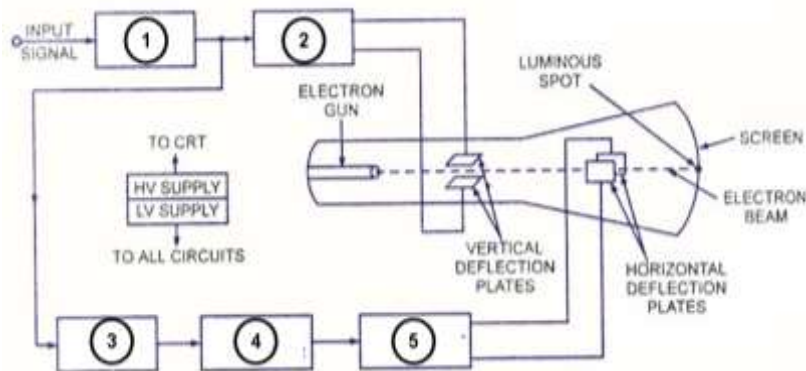

Fig. 2 – Block diagram of general purpose CRO for Q.3 (a)
Q.3 (a) The block diagram of a general purpose cathode ray oscilloscope (CRO) is as shown in Fig. 2 below. Identify the blocks / elements numbered from 1 to 5 & describe their functionality. What is the use of trigger circuit / trigger generator in CRO ? Explain with neat diagram. **20**